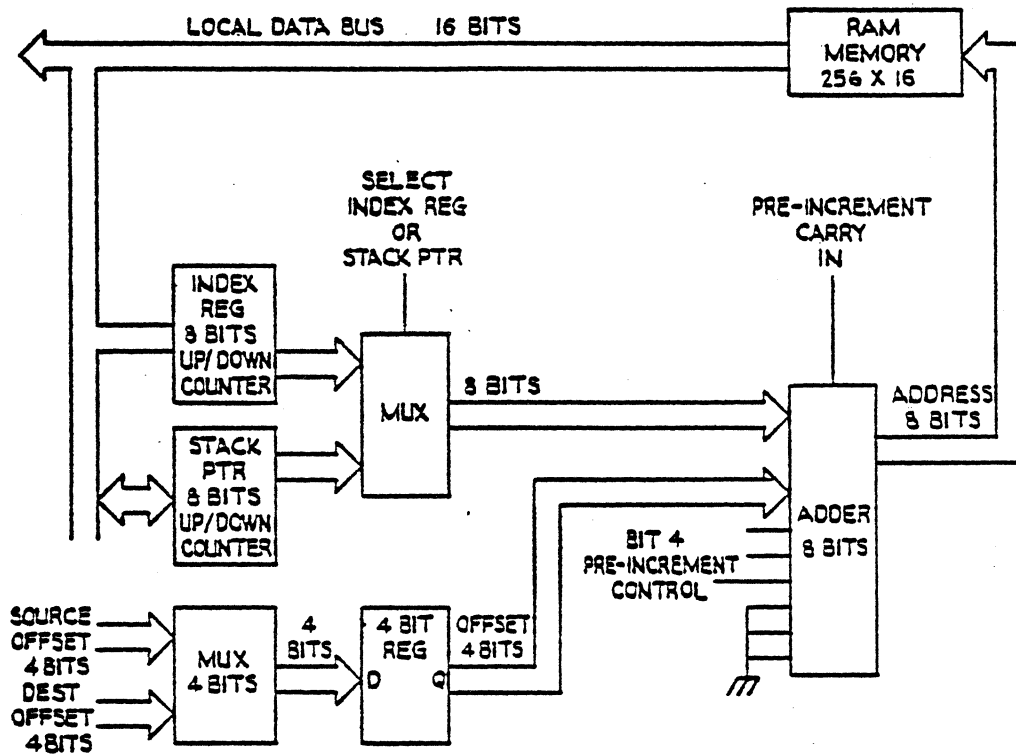

Figure 4-13. Scratchpad Stack Block Diagram
This unit is built around a 256 x 16 bit fast bipolar memory. The memory can be written from or to the microprocessor data bus in various ways. The index register (XR) and the stack pointer register (XSTK) are each 8-bit up-down counters used to generate and hold the 8-bit addresses used to address memory (see Figure 4-13). All addresses are generated modulo 256. Address 0 follows address 255. There are two modes of addressing available using the index register (XR). In one mode the index register is set to an address which represents the base of a 16 word page. Any of 16 words can then be written or read with 16 source and destination codes (SP0-SP15) without resetting the index register. In the other mode of addressing (the index register) a 15 word page is accessible and the index register is incremented before a word is read or after a word is written, thus shifting the whole page up or down. This pre-increment, post decrement mode of addressing may be used to read successive words in a loop or to implement a stack using the index register.